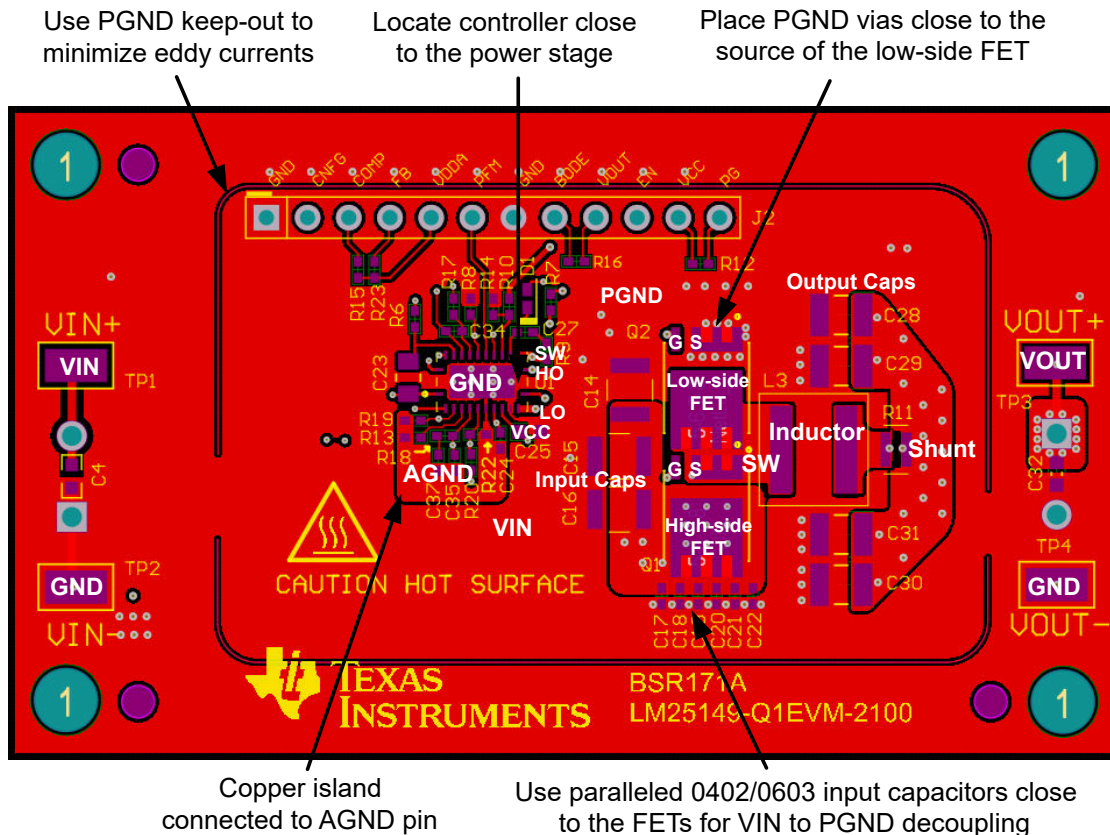

图 9-47. PCB Top Layer – High Density, Single-sided Design
图 9-47 shows a single-sided layout of a synchronous buck regulator with discrete power MOSFETs, Q1 and Q2, in SON 5-mm × 6-mm case size. The power stage is surrounded by a GND pad geometry to connect an EMI shield if needed. The design uses layer 2 of the PCB as a power-loop return path directly underneath the top layer to create a low-area switching power loop of approximately 2 mm². This loop area, and hence parasitic inductance, must be as small as possible to minimize EMI as well as switch-node voltage overshoot and ringing.
- Make the ground connections to the LM5148 controller as shown in 图 9-47. Create a power ground directly connected to all high-power components and an analog ground plane for sensitive analog components. The analog ground plane for AGND and power ground plane for PGND must be connected at a single point directly under the IC – at the die attach pad (DAP).